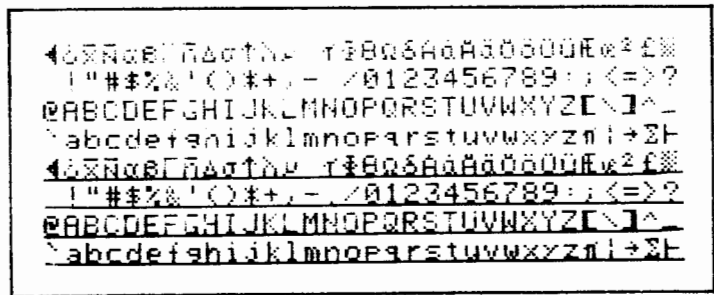

Figure 8-5. CRT Test Pattern 5
- h. Eight lines containing two copies of the HP-85 character set (CRT test pattern 5), as shown in figure 8-5. The first four lines contain the 128 characters without underscores; the second four lines contain the same 128 characters underscored. The lines of {B}'s "roll" up off the top of the screen as the eight lines of characters roll up in the bottom of the screen.